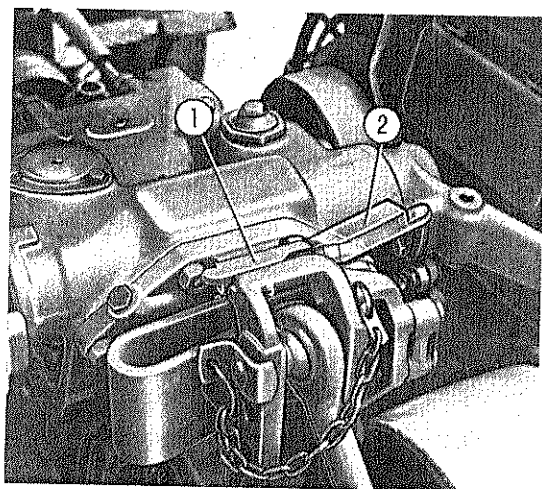

Fig. 19. - Hinged spacer block for implement carrier link support.
Furthermore, a hinged spacer block has been provided to avoid pointless and abnormal stresses of reaction spring: this block must be swung out (see fig. 19) **only when working on "draft control"**. When « position control » is used or during transfers of carried implements, this block must always remain in place (see fig. 19).
- **in position-control operation** - in which case the spacer block (see fig. 19) must be inserted to avoid unnecessary stressing of reaction spring, recourse may be had to any one of the three holes — according to need — to carry the implement but, usually, the lower hole is used;